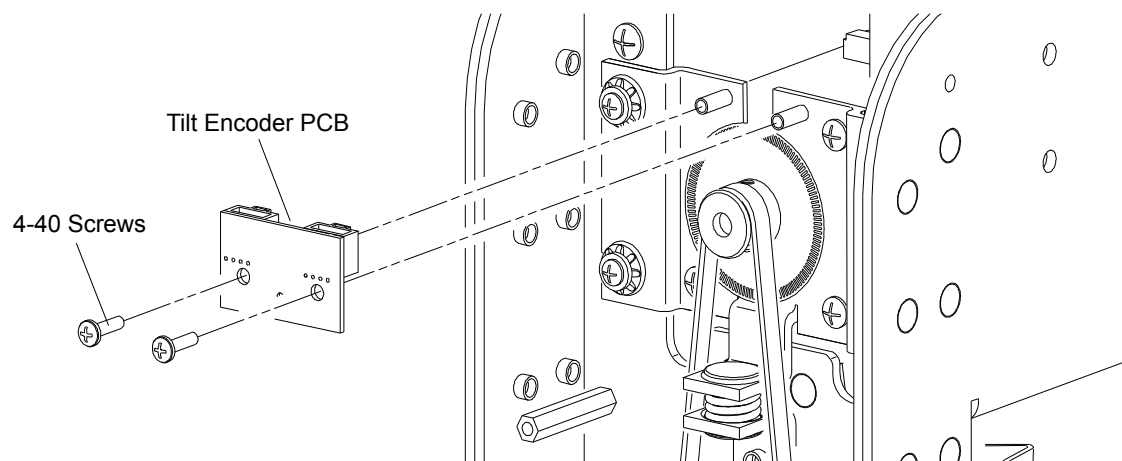

Figure 2-25: Tilt Encoder PCB Replacement
- Step 3. As shown in **Figure 2-25**, at tilt encoder PCB, remove two 4-40x1/4" PPZ screws.